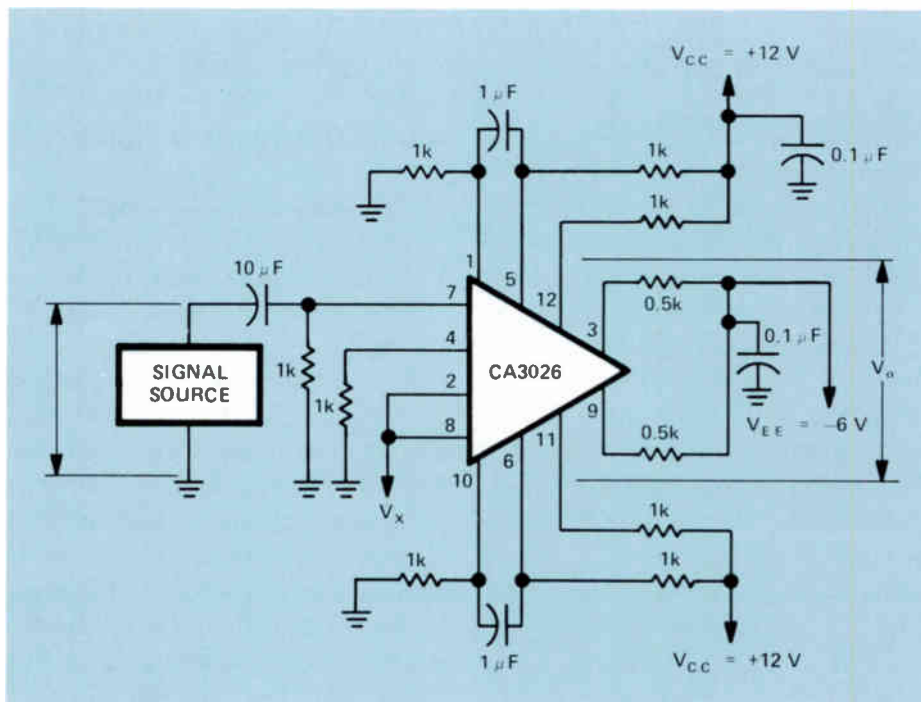

Figure 18. Using the CA3026 as a two-stage amplifier.
To give you an idea of how much gain this actually represents, if we feed a 1 microvolt signal (in other words, a signal having an amplitude of 1 millionth of a volt) into terminal 7, we will have an amplified signal of 1000 microvolts, which is equal to 1 millivolt, between the output of terminals 11 and 12. If we take a second CA3026 and feed the output from terminals 11 and 12 of the first IC into terminals 4 and 7 of the second IC, with the circuit essentially the same as in Fig.18, we can get another voltage gain of 1000. Therefore, at terminals 11 and 12 of the second IC, the amplitude of the signal will be 1 volt. In other words, by connecting two ICs in cascade so that the signal is amplified first by one and then by the other, we can amplify the signal from 1 microvolt to 1 volt, getting a total gain of 1,000,000.
- 12 In the circuit shown in Fig.18, do we have a single-ended input or a push-pull input?
- 13 In the circuit shown in Fig.18, do we have a single-ended output or a push-pull output?